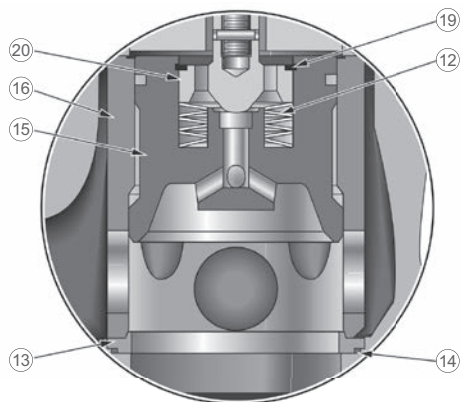

Figure 15 - 41405 Trim: 2" to 4"
3.1 Removal of Actuator (Figures 15 and 16)